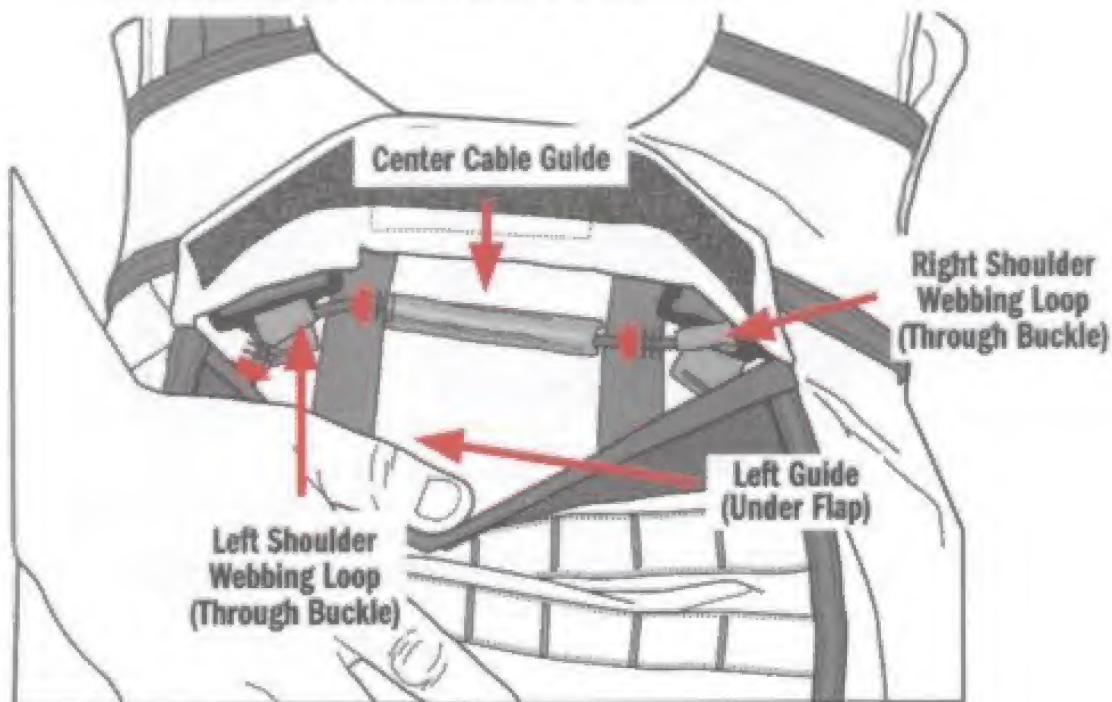

Fig. 24. Routing Quick-Release Cable through shoulder attachments.
5. Route the short Quick-Release cable through the right shoulder cable guide loop, the center cable guide, and the left shoulder cable guide loop leaving the cable on the left side as shown in **Fig. 24**. Secure Upper Back Flap at hook and pile seam.